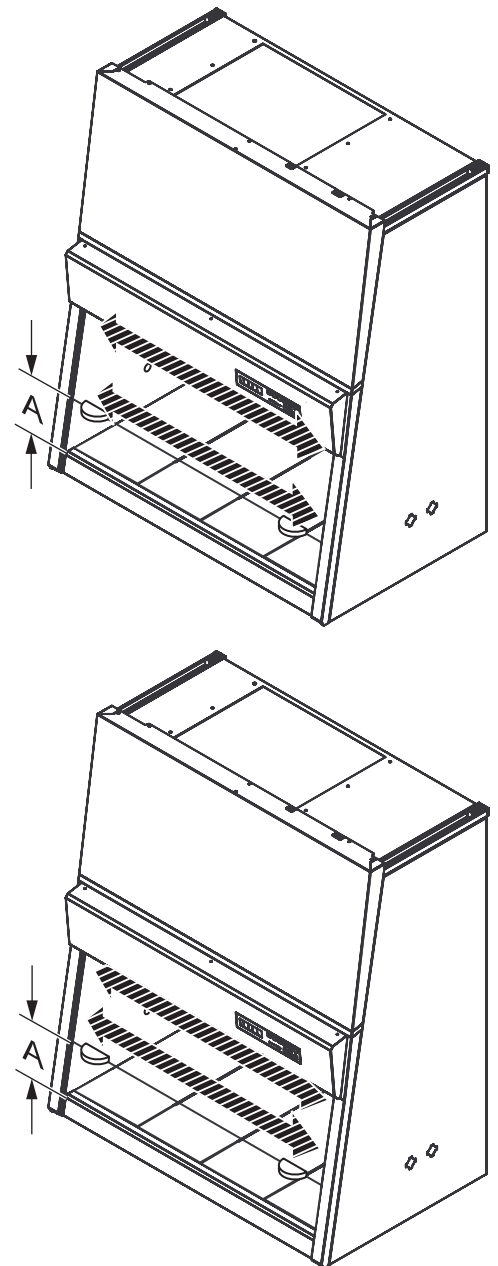

Fig. A6
1. **Fig. A6:** Move the front window to the position **A**.